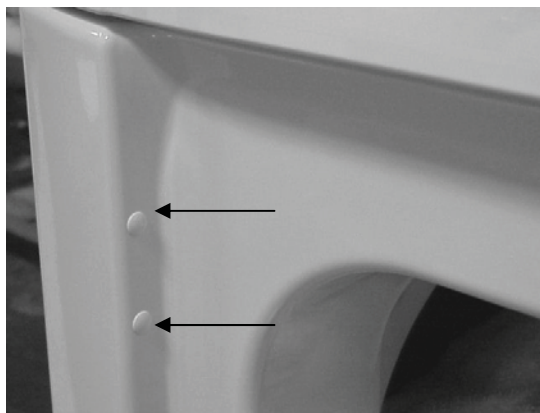

Figure 1
1. Open door and remove four (4) plugs in the door opening opposite the hinges. Retain all parts for uses later, unless otherwise noted. (Figure 1) **Note:** Use care in removing plugs in not scratching paint on the front panel.